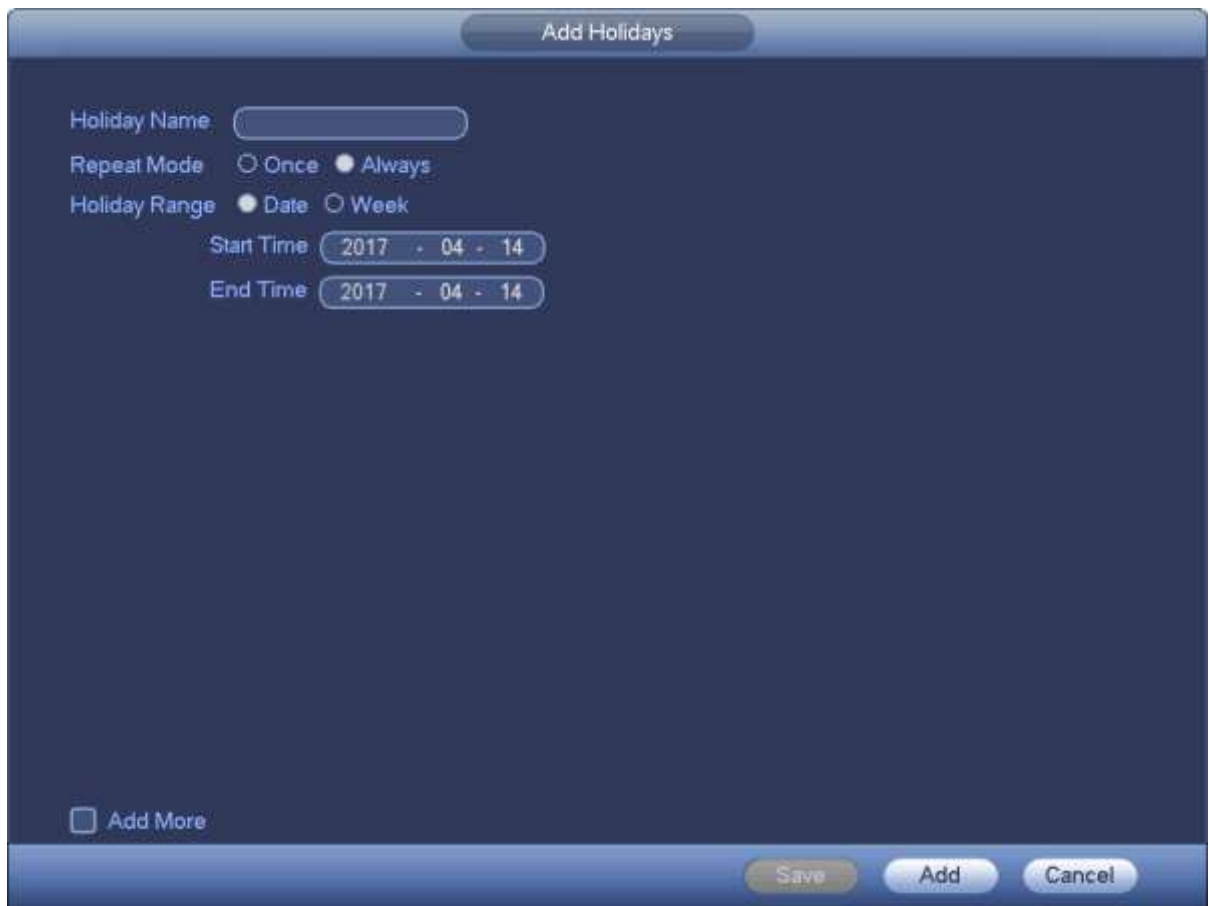

Figure 4-23
Step 2 Click Add new holiday button, device displays the following interface. See Figure 4-23.